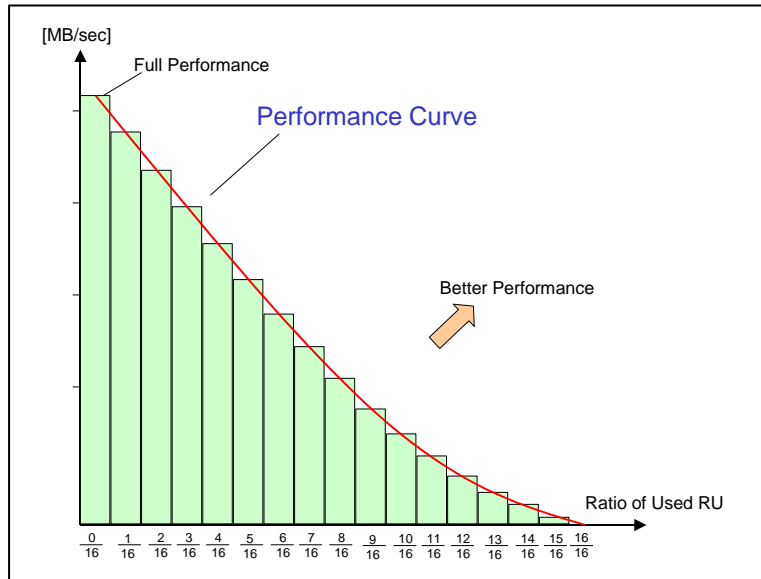

Figure 4-49: Card Performances between 16 RUs
Figure 4-49 shows the write performance bar chart of $P(Nu)$ of equation (1). An AU consists of 16 RUs in this example. Joining the points of each bar shows the performance curve, which can be determined from the two parameters, P_w and P_m .